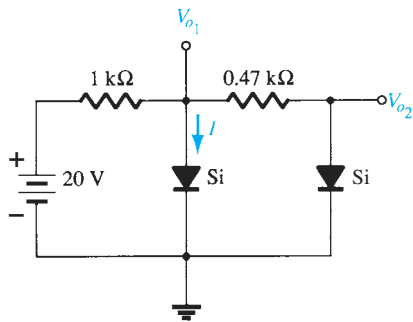

FIG. 2.162
12. Determine V_{o1} , V_{o2} , and I for the network of Fig. 2.162.